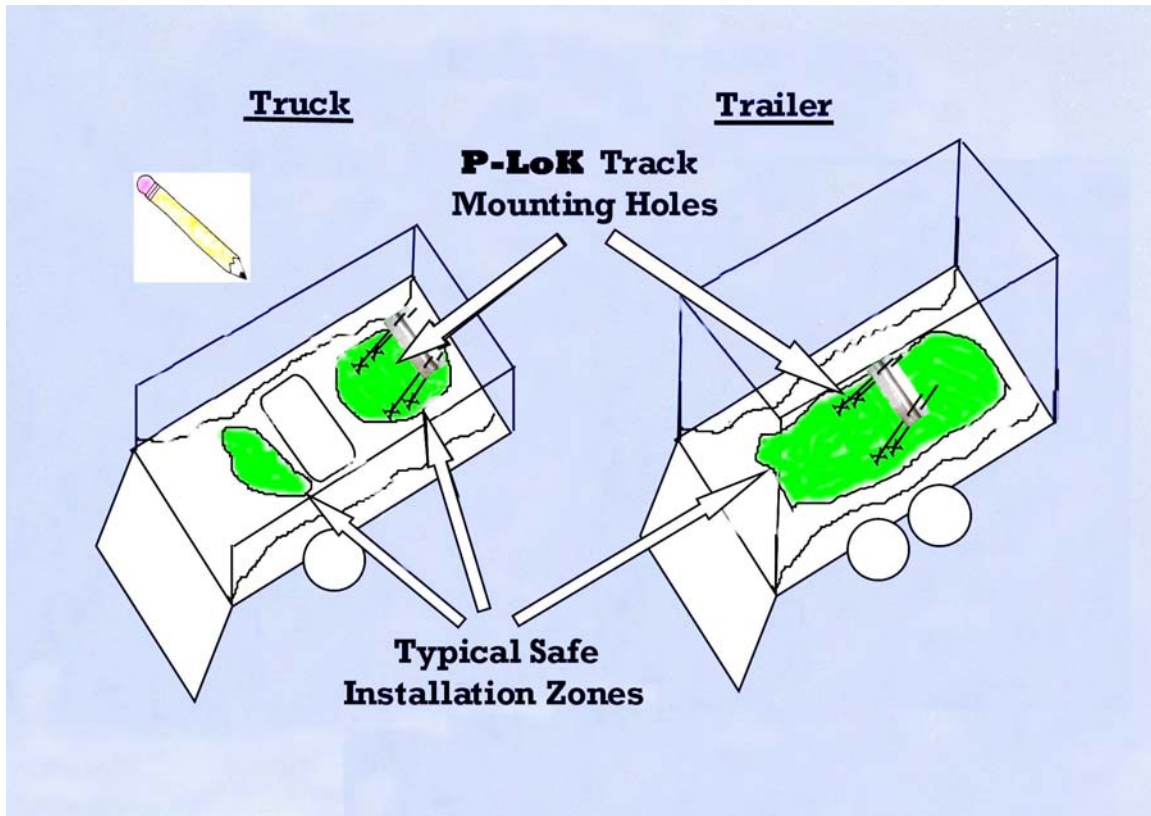

Figure 6: P-LOK™ Track Mounting Holes (Marked)
Step 3: With the **P-LOK™** Track positioned in a safe installation position and flat on the truck or trailer bed, mark the four track mounting holes to be drilled (see figure 6).